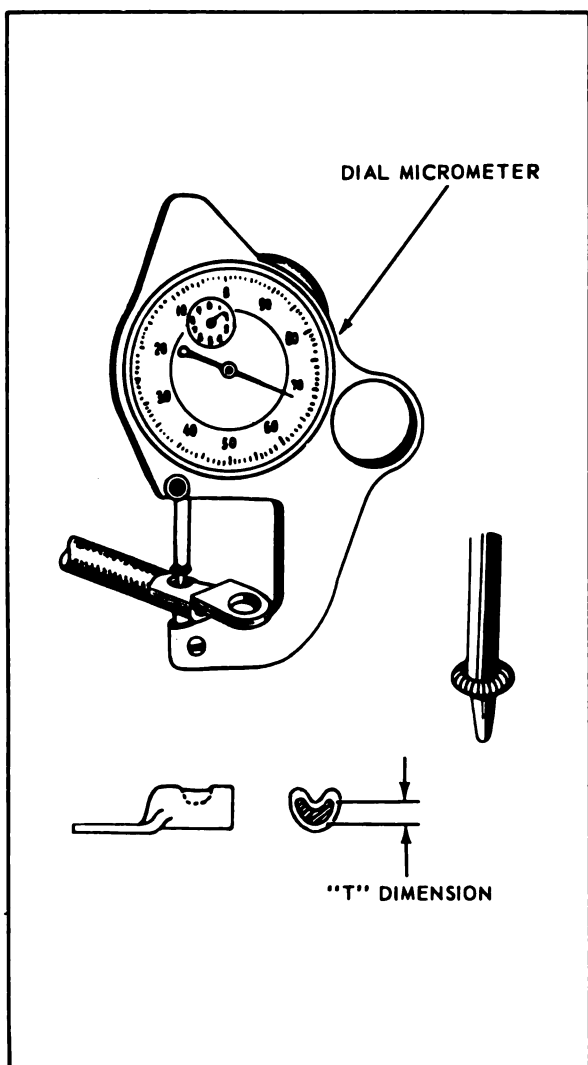

Figure 5-20. Indent Inspection
1. Use micrometer or depth indicator with point adapter to measure "T" dimension as shown in figure 5-20.